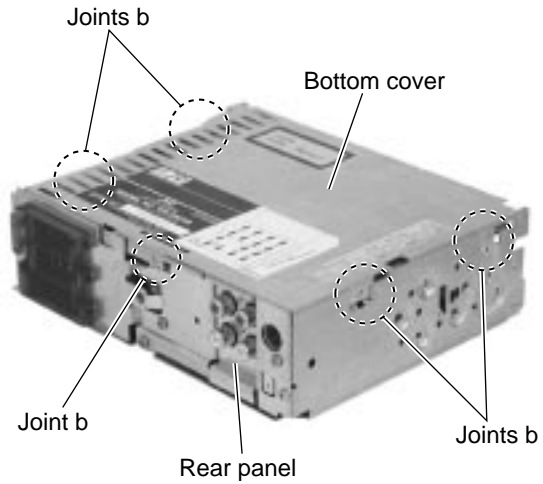

Fig.5
■ **Removing the bottom cover (See Fig.5 and 6)**